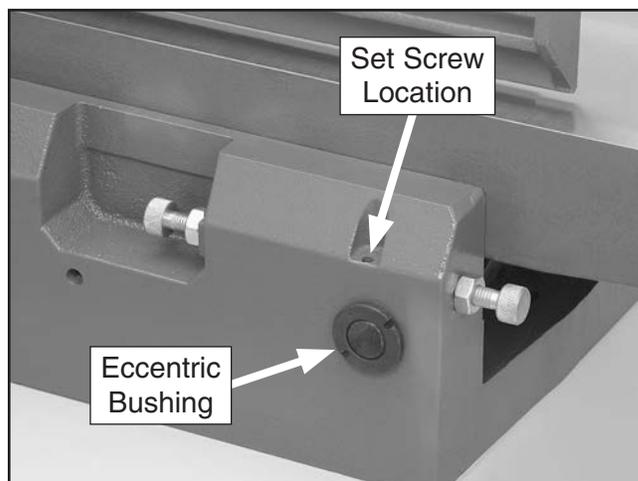

Figure 73. Eccentric bushing and set screw location.
2. Remove set screw from each of the four eccentric bushings under outfeed table (see **Figure 73**).